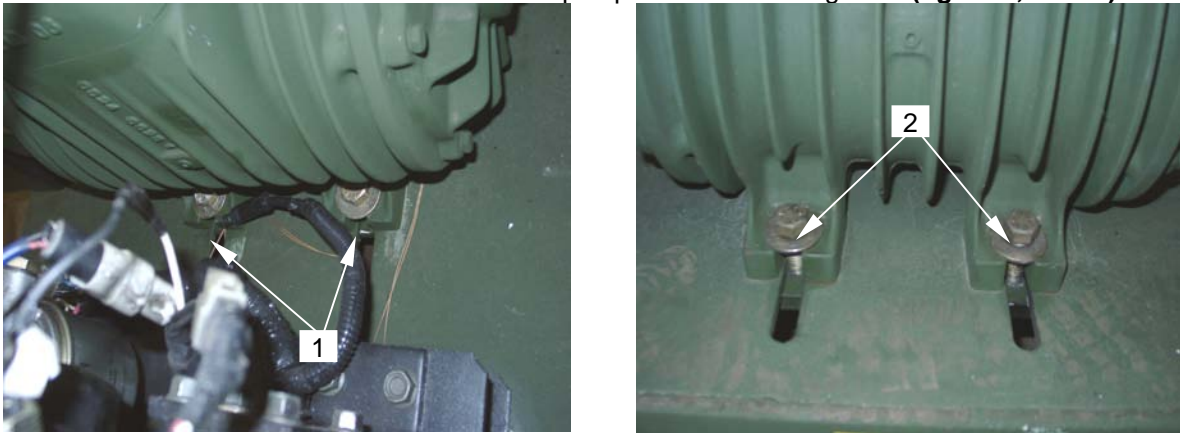

Figure 2. Vacuum Pump Mounting Bolts
- To adjust the drive belt, proceed as follows: Loosen but do not remove the 1-inch vacuum pump inside mounting bolts (**figure 2, item 1**).
- Loosen but do not remove the 1-inch vacuum pump outside mounting bolts (**figure 2, item 2**).